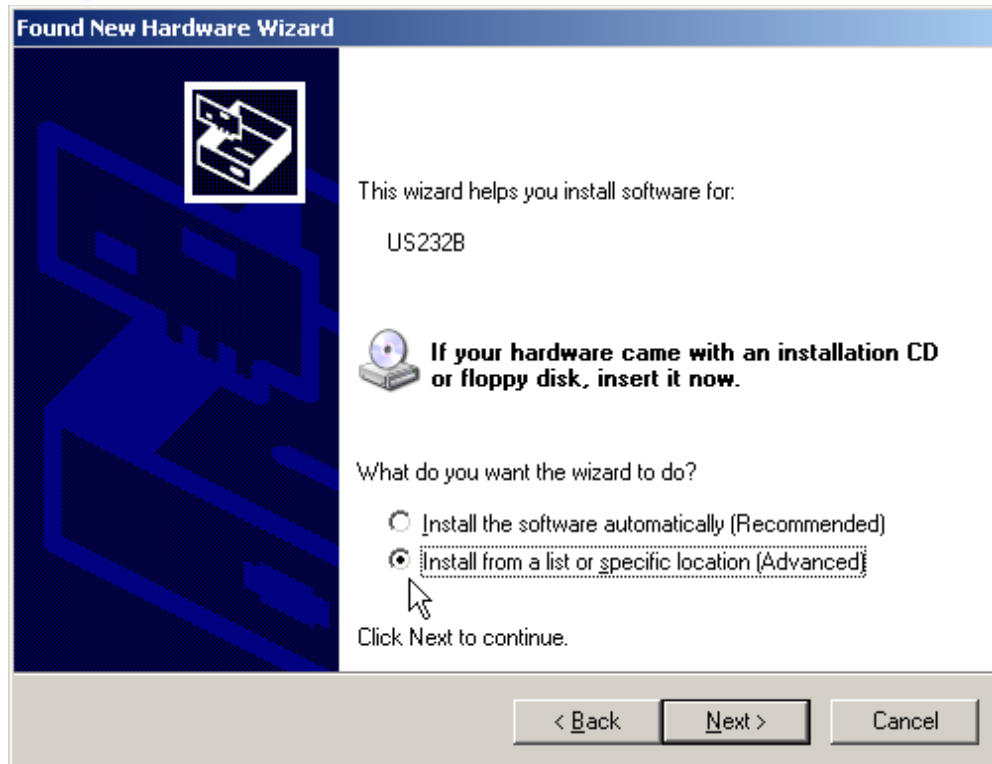

Fig. A.2
- Window (Fig. A.2) will appear on the display. Select «**Install from a list or specific location (Advanced)**» from the menu and click on the «**Next**» button.